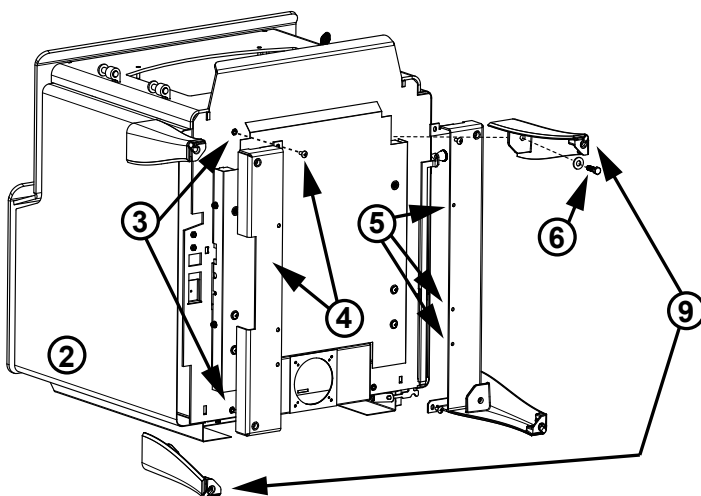

Figure 22.1
3. Remove four screws from bottom of appliance (**Figure 22.1**).
**NOTE:** There is a right and a left of the leg brackets (**Figure 22.1**).
5. Install six screws to the bottom of the leg brackets (**Figure 22.1**).
**NOTE:** Legs with leveling bolts need to be on opposite sides of the appliance - one in the front and one in the back (**Figure 22.1**).